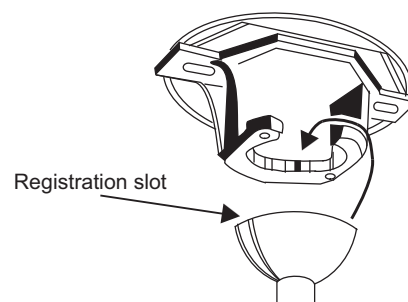

Figure 7
Step 8. Place the downrod ball into the hanger bracket socket. (Fig. 7)